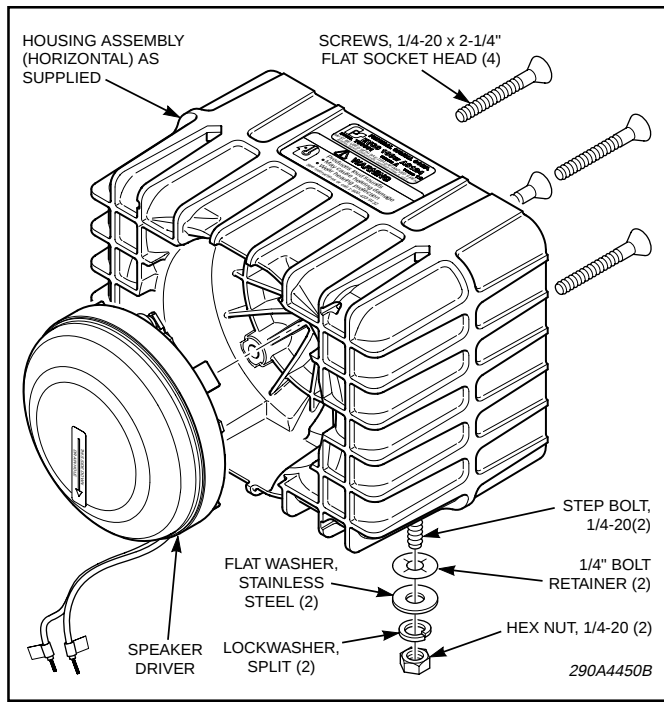

Figure 3.
2. The AS124 unit is constructed of two main parts, the housing assembly, consisting of the rectangular housing with attached AS124 projector and the speaker driver. Both are held together by means of four 1/4-20 x 2-1/4" long flat head socket bolts. Remove the four bolts with a 5/32" socket key disassembling the driver from the housing assembly. (See figure 3.)